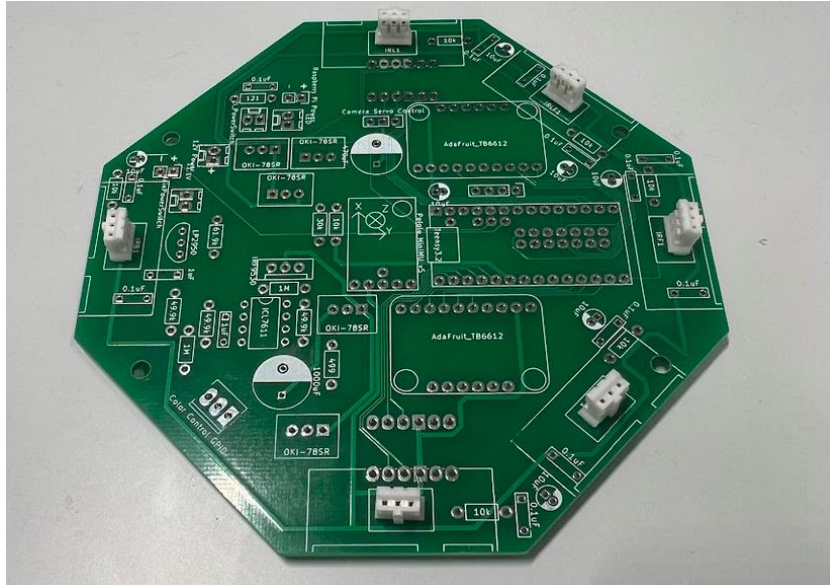

Figure 2.4: PCB board with IR transceiver mounts attached.
5. Once you have 6 IR transceiver mounts assembled, go ahead and solder them into the PCB board into their designated spots, as shown in Figure 2.4 below.